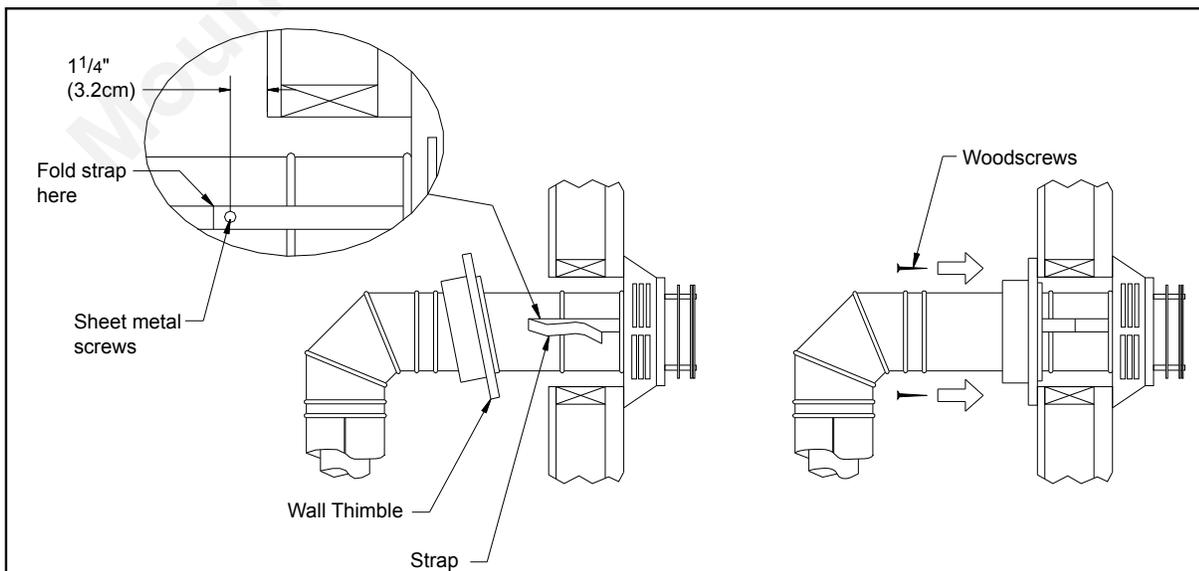

Figure 8: Installing Decorative Wall Thimble.
STEP 6. Slide the appliance and vent assembly towards the wall, carefully inserting the vent pipe into the cap assembly. It is important that the vent pipe extend into the vent cap a sufficient distance with a minimum of 1¼" (3.2 cm) overlap. Secure the connection between the vent cap pipe and the vent cap by attaching the two sheet metal straps extending from the vent cap assembly into the outer wall of the vent pipe. Use the two sheet metal screws provided to connect the straps to the vent pipe. Bend any remaining portion of the sheet metal straps back towards the vent cap, so the decorative wall thimble will conceal it (see left image in Figure 8).
STEP 7. Slide the decorative wall thimble up to the wall surface and attach with the screws provided. Apply decorative brass or chrome trim if desired (see right image in Figure 8).